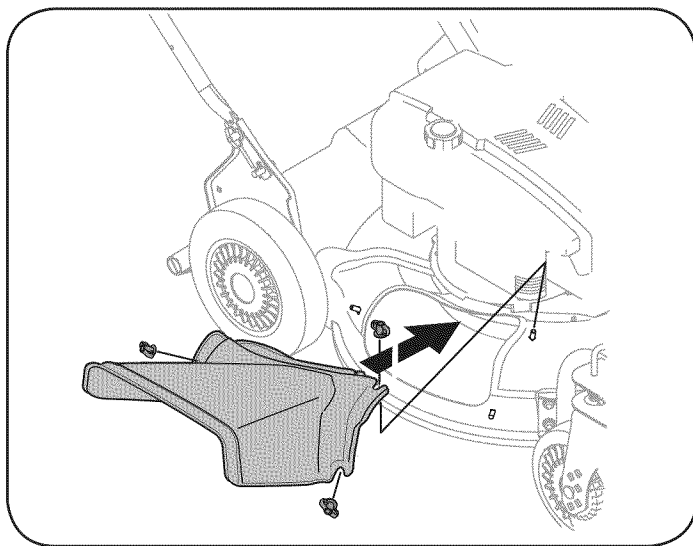

Figure 11
2. Attach side discharge chute to unit and secure with the three wing nuts. See Figure 11.